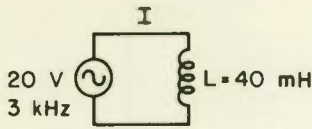
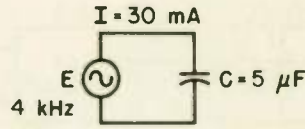

Fig. 4
Fig. 5
- The formula for finding the reactance of an inductor is (a) _____. The reactance of L in Fig. 4 is (b) _____ ohms. The current I in Fig. 4 is (c) _____ milliamperes.
6. What is the voltage of the a-c generator in Fig. 5?
7. If the frequency in Fig. 4 were to double to 6 kHz (the voltage not changing), the current would then be (a) _____ milliamperes. If the generator voltage in Fig. 5 remained at 239 mV but the frequency were doubled, then the current would change from 30 mA to (b) _____ milliamperes.